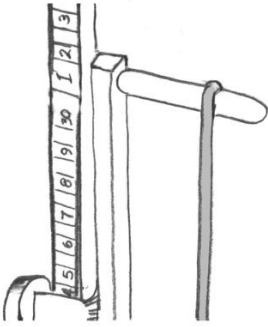

fig 2
- 2/ Hang the spoke elbow over the size stand horizontal rod (fig 2). In the case of straight pull spokes, push the spoke end against the rod neck. Maintain finger pressure on the elbow until the cut is finished and the spoke will not drop off the hangar.